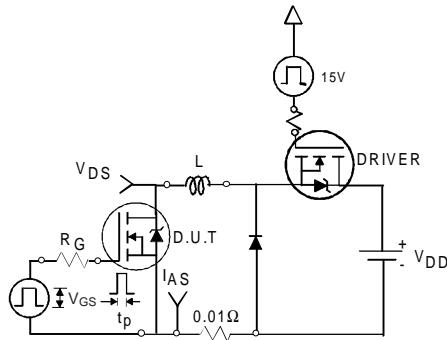

Fig 12a. Unclamped Inductive Test Circuit
- ③ $I_{SD} \leq 85\text{A}$, $di/dt \leq 310\text{A}/\mu\text{s}$, $V_{\text{DD}} \leq V_{(\text{BR})\text{DSS}}$, $T_J \leq 175^\circ\text{C}$
- ④ Pulse width $\leq 400\mu\text{s}$; duty cycle $\leq 2\%$.
- ⑤ $C_{\text{oss eff.}}$ is a fixed capacitance that gives the same charging time as C_{oss} while V_{DS} is rising from 0 to 80% V_{DSS} .
- ⑥ Calculated continuous current based on maximum allowable junction temperature. Package limitation current is 75A.
- ⑦ Limited by $T_{J\max}$, see Fig.12a, 12b, 15, 16 for typical repetitive avalanche performance.
3. Equation below based on circuit and waveforms shown in Figures 12a, 12b.